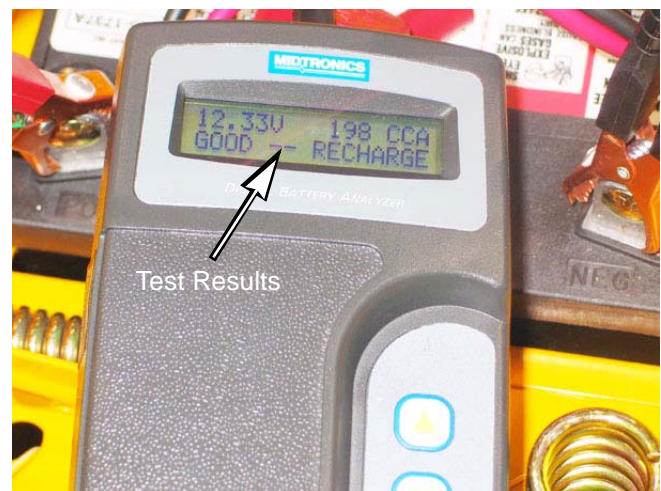

Figure 7.51
4. Read the display of the tester. The tester's display will indicate if the battery passed or not. See Figure 7.51.